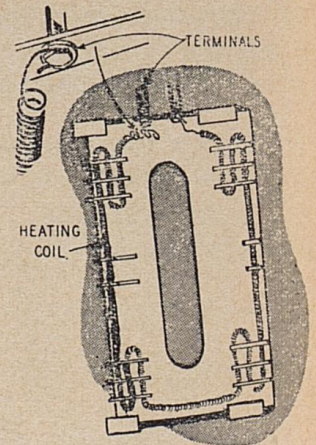

Fig. 19
1. Reattaching the broken coil to the terminal. This repair can be made only when the break is close to the terminal. Fig. 19.
- b. Fasten around terminal in direction screw or nut tightens. Fig. 19.